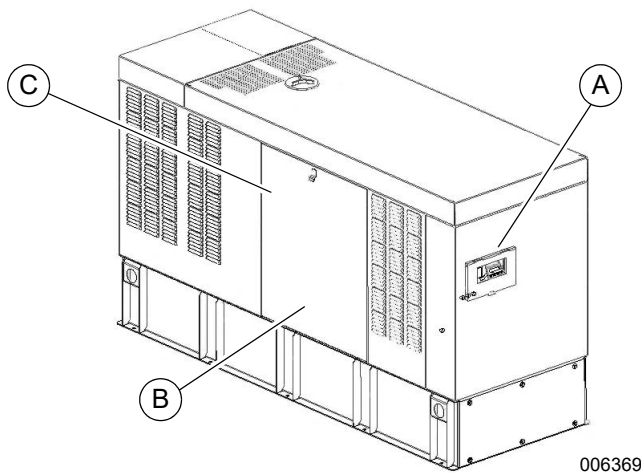
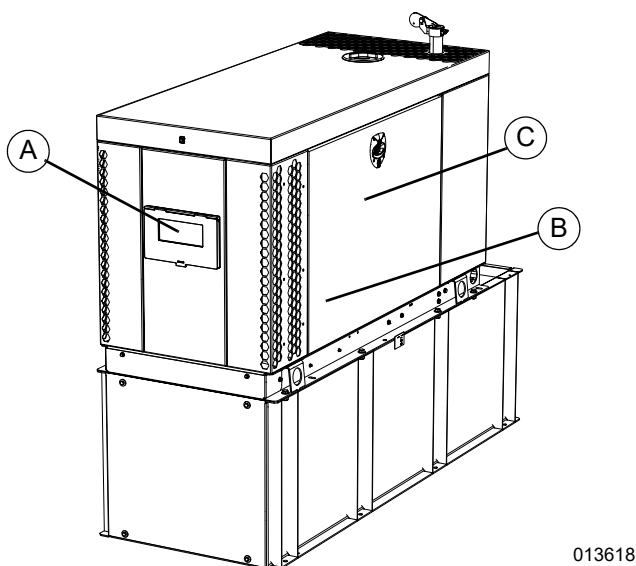

Figure 3-1. Enclosure RD Units (Rear Left View)
Figure 3-2. Enclosure RA Units (Rear Right View)
See Figure 3-1 and Figure 3-2. The side of enclosure with viewing window (A) is identified as the rear of the generator. The right and left sides are identified by standing at the rear and looking towards front of unit. The battery (B) and fuel priming pump (C) are located on side of unit for the RD units and the right side of the RA units.